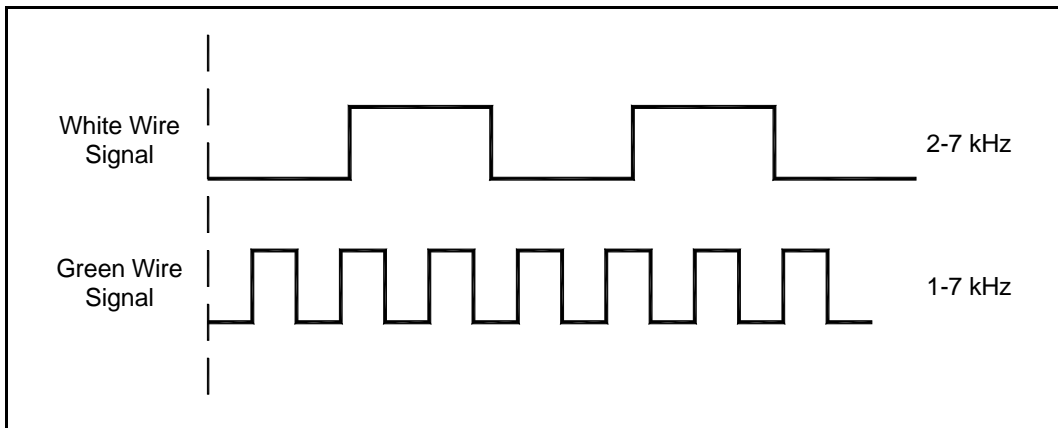

Figure 28: Oscilloscope Display
3. Observe the signals on terminal 21 (the white wire) and terminal 20 (green wire). Figure 28 shows the correct response: